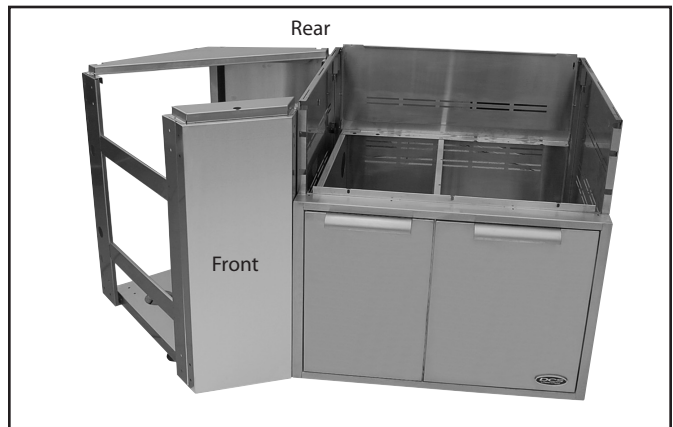

Fig. 09
3. Place the Bend Unit on top of the lifters, adjacent to the CAD cart. To ensure proper alignment, make sure the back of the cart is flush with the rear wall or door of the Bend Unit (Fig. 09).